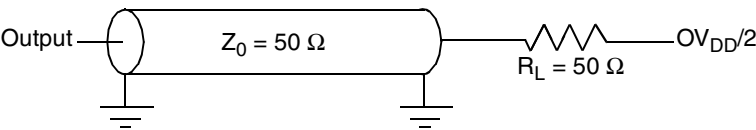

Figure 4. AC Test Load
1. All input specifications are measured from the midpoint of the signal in question to the midpoint of the rising edge of the input SYSCLK. All output specifications are measured from the midpoint of the rising edge of SYSCLK to the midpoint of the signal in question. All output timings assume a purely resistive 50-Ω load (see Figure 4). Input and output timings are measured at the pin; time-of-flight delays must be added for trace lengths, vias, and connectors in the system.
2. The symbology used for timing specifications herein follows the pattern of $t_{(signal)(state)(reference)(state)}$ for inputs and $t_{(reference)(state)(signal)(state)}$ for outputs. For example, t_{VKH} symbolizes the time input signals (I) reach the valid state (V) relative to the SYSCLK reference (K) going to the high (H) state or input setup time. And t_{KHOV} symbolizes the time from SYSCLK(K) going high (H) until outputs (O) are valid (V) or output valid time. Input hold time can be read as the time that the input signal (I) went invalid (X) with respect to the rising clock edge (KH) (note the position of the reference and its state for inputs) and output hold time can be read as the time from the rising edge (KH) until the output went invalid (OX).
Figure 4 provides the AC test load for the MPC7448.